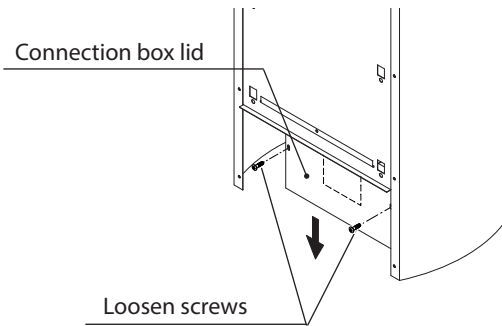

Fig. 6
- Open the cover of of the terminal box (remove 2 screws) as shown in Fig. 6 and pull the cover downwards.